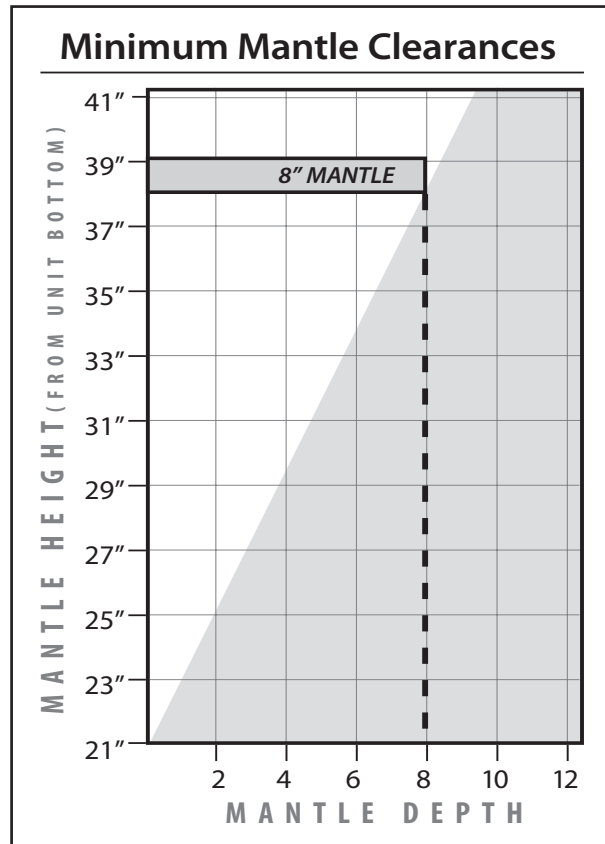

Figure 13: Mantle width and height.
1. Plan your installation and clearances to combustibles. The EG31 may be installed and vented into any solid fuel fireplace that has been installed in accordance with the National, Provincial/State and local building codes and has been constructed of non-combustible materials. Also refer to the INITIAL INSTALLATION - PREPARING YOUR EG31 FOR INSTALLATION and CLEARANCES TO COMBUSTIBLES sections. Refer to Figure 13 throughout installation.